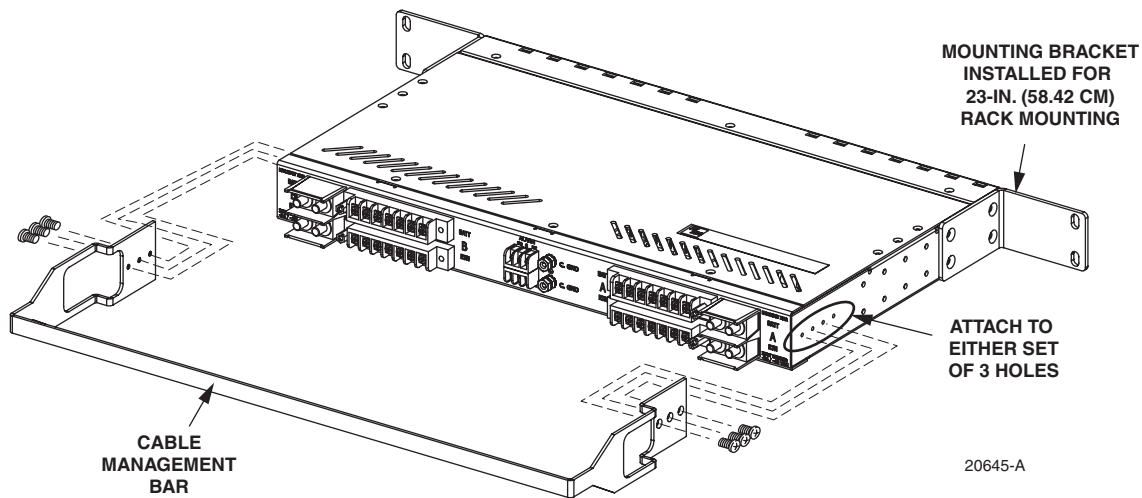

Figure 11. Cable Management Bar Installation
1. Position the cable management bar at the rear of the panel as shown in Figure 11.